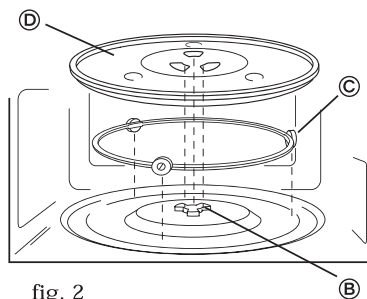

fig. 2
To be placed in the centre of the oven to support the glass plate, (see Fig. 2)
- (B) Hub. Rotates the glass plate (D) , (see Fig. 2)
- (C) Glass Plate (D) .To be placed on the turntable ring with the centre fitting located on the hub. (see Fig. 2)
- a. Never place the glass turntable (D) upside down. The turntable should never be restricted in movement.
- b. Both glass turntable (D) and turntable ring assembly (C) must always be used during cooking.